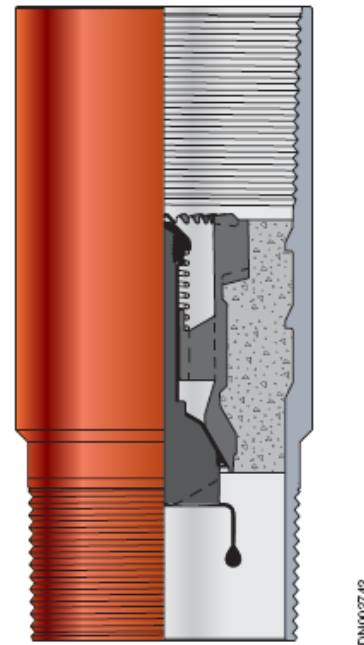

Figure 1.6.A—Super Seal II NR float collar
Super Seal II™ nonrotating (NR) float collars (**Figure 1.6.A**) offer all the features of standard Super Seal II float collars, but are equipped with an NR plug seat that allows NR cementing plugs with locking teeth to latch together for improved drillout times with fixed cutter bits. When the NR plastic insert plugs are drilled out with PDC or other fixed cutter bits, drillout time can be reduced by 90%. The NR feature helps prevent long drillout times by preventing the cementing plugs from spinning on top of the float collar.
Figures 1.6.B and **1.6.C** show the various Super Seal II NR float collars. **Tables 1.6.A** through **1.6.D** provide details about the 24-tooth NR Super Seal II float collars.
High-strength float equipment is available in 9 5/8-in., 10 3/4-in., and 13 3/8-in. casing sizes and are rated to the differential pressures specified in **Table 1.6.E**. **Figure 1.6.D** shows a high-strength float collar.